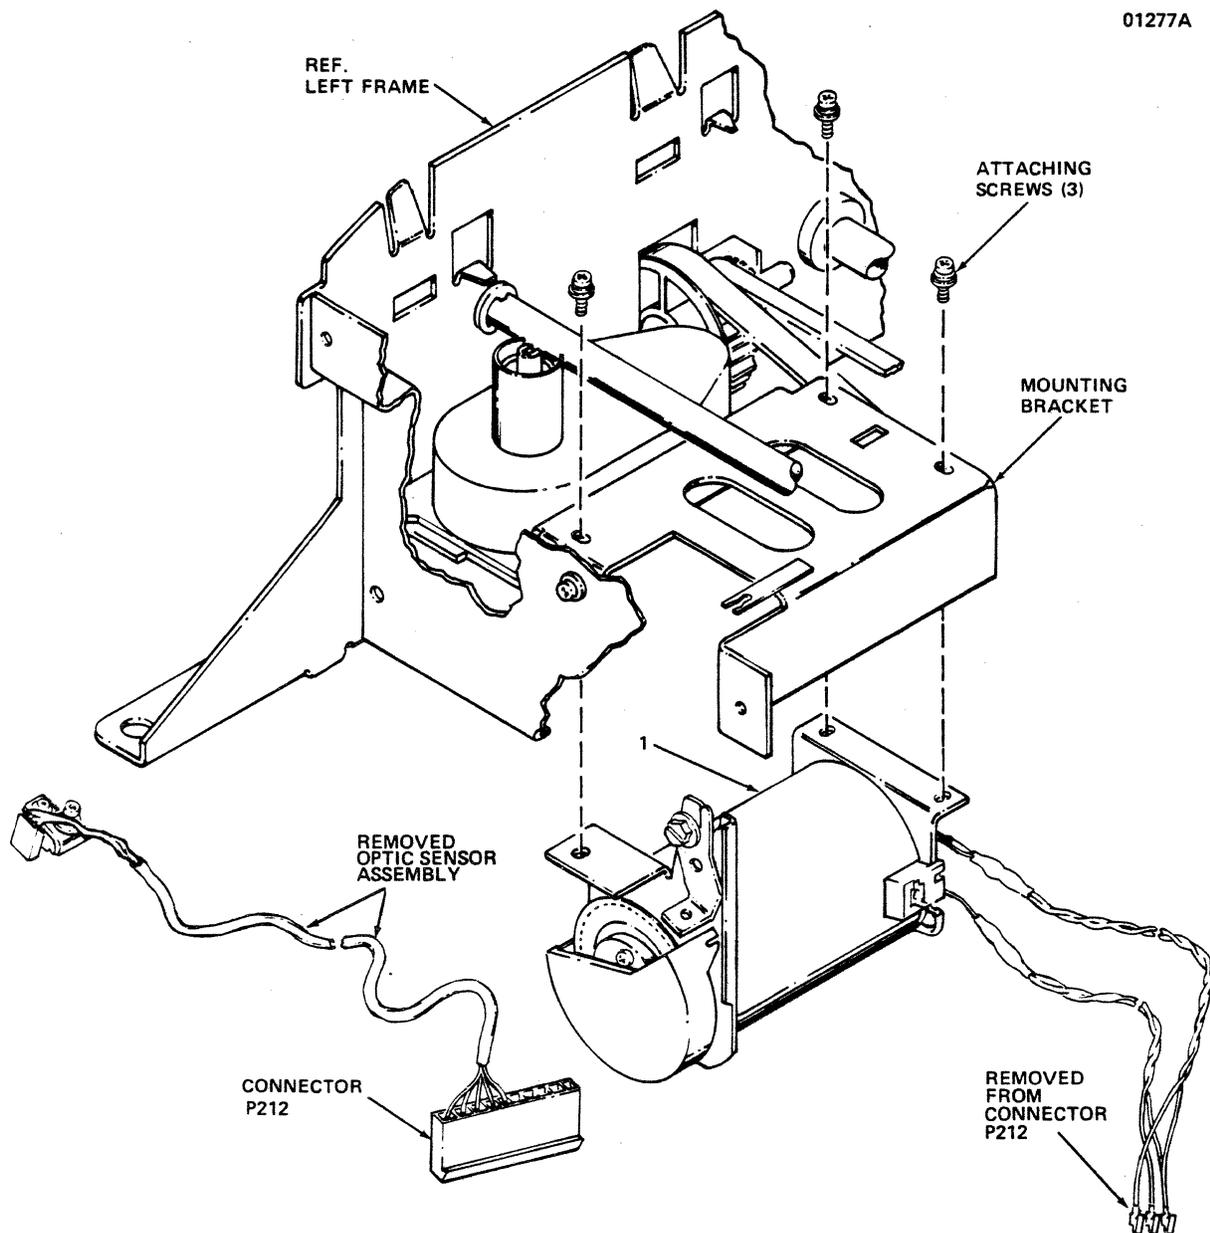

Figure 3-11 Removal/Replacement, Carriage Drive Motor
The carriage drive motor, item 1 of Figure 3-11, is attached to a motor mounting bracket and is removed using a Phillips screwdriver. To remove the carriage drive motor, refer to Figure 3-11 and perform the following steps: